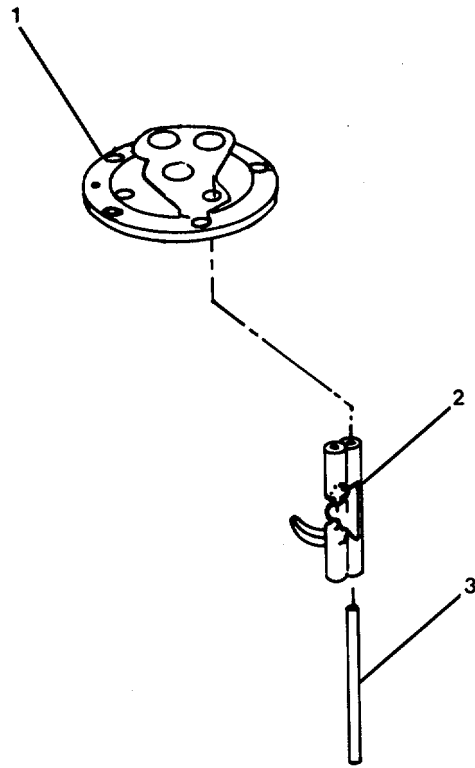

FIGURE 3-68. Repair Shifter Yoke Assembly.
- e. Install clutch (15), thrust bearing (16), gear and clutch (17), and needle bearing (18) on shaft.
- f. Using an arbor press, press bevel gear (19) on shaft.
- g. Install bushing (20).
- h. Using an arbor press, press bearing (2) and clutch (22) into spur gear (21).
- j. Install spacer (1).
**3-66. Repair Shifter Yoke Assembly. (Figure 3-68)**